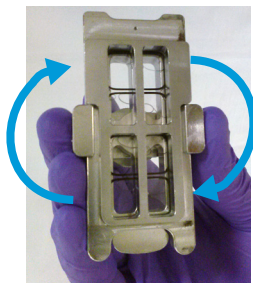

Figure 10. Rotation of the final assembled chamber
- 4 Rotate the final assembled chamber in a *vertical orientation*, clockwise, 2 to 3 times to wet the gaskets (see **Figure 10**).